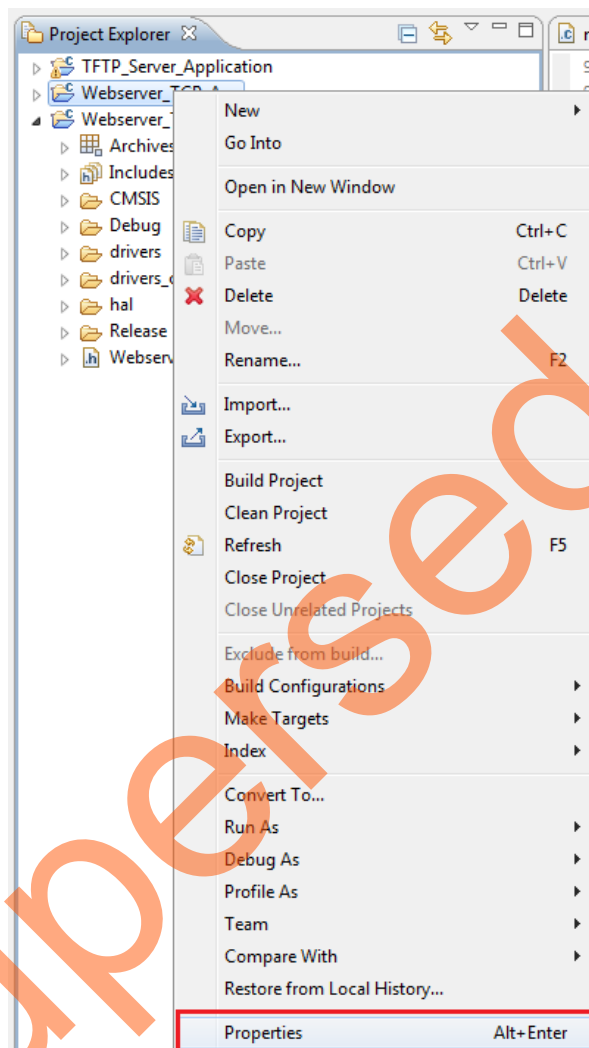

Figure 31 • Project Explorer Window of SoftConsole Project
1. To run the Webserver design in Static IP mode, right-click the **Webserver_TCP_App** project and select **Properties** as shown in Figure 31.